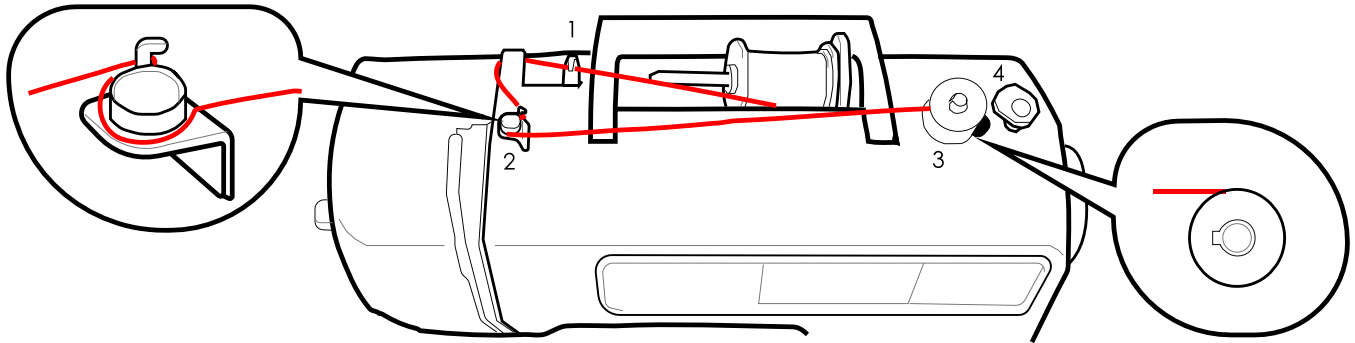

Figure 1
Now that you've selected your thread, it's time to fill your bobbin. The Brother models we have on the floor do have a quick overview of how to fill a bobbin, as highlighted in Figure 1. Essentially, you'll follow the dotted line on the machine with your thread.
- 2) Run your thread around Part 2. Make sure to pull it in front of the metal hook before you pull it between the round button and the main metal plate. See the detail bubble on the left side of Figure 1.
- 3) Pull your thread to the bobbin, which you should have placed on Part 3. On the Brother, Part 3 rotates clockwise to wind the thread on the bobbin, so pull the thread behind the bobbin and wind it clockwise to finally thread it through a gap on the bottom of Part 3. See the detail bubble on the right side of Figure 1.